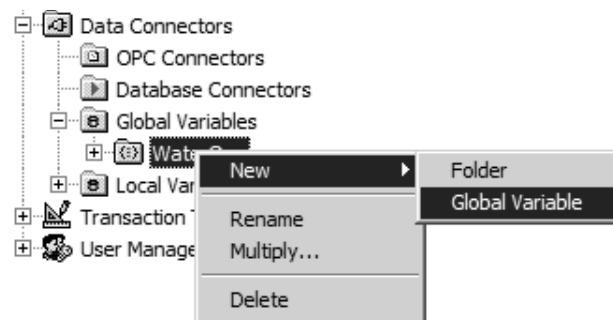

Figure L3.2 - Creating a new global variable
3. Under the **Global Variables** tree control, right click on the new **WaterOne** folder and select **New → Global Variable**, as shown in Figure L3.2.